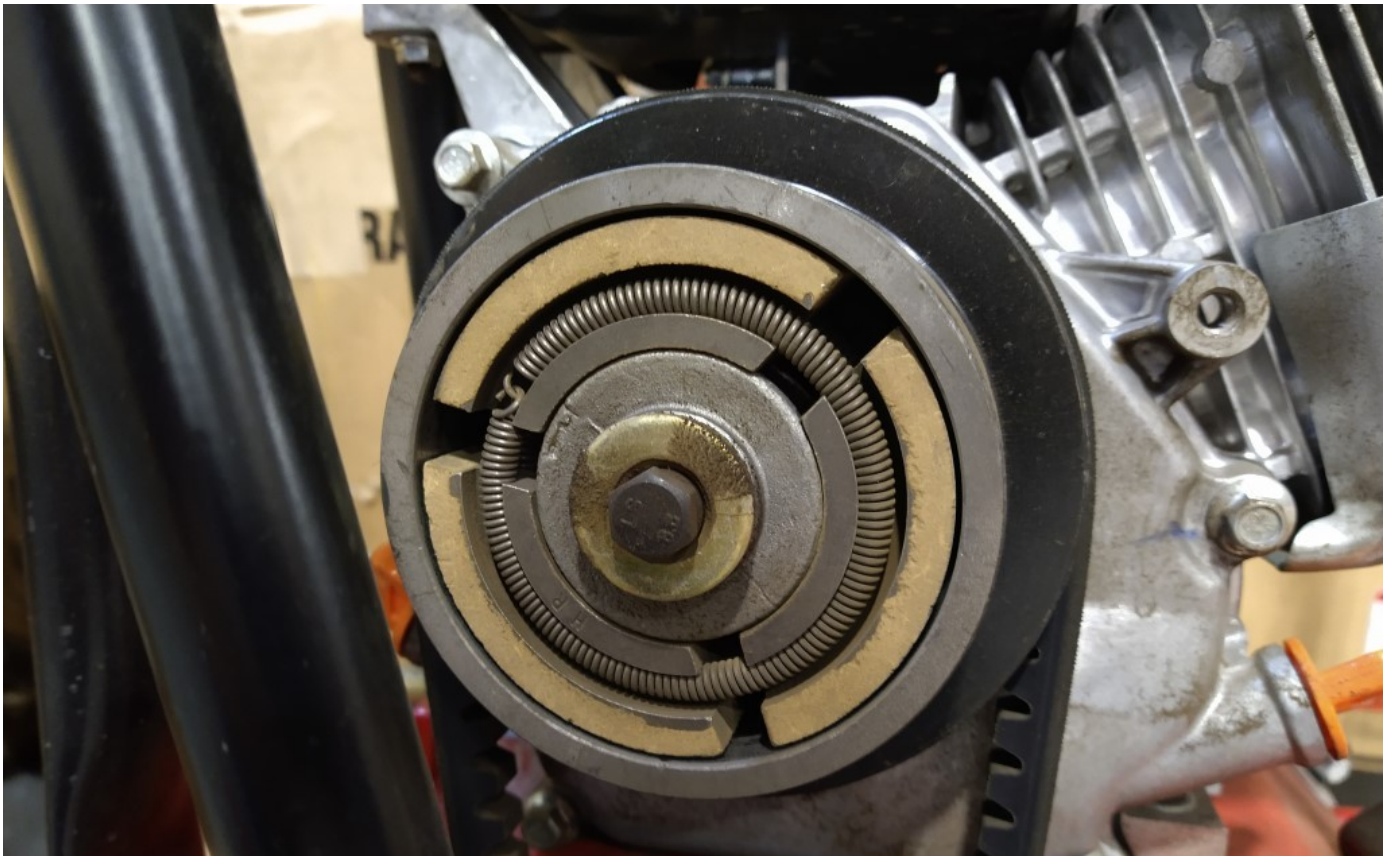

Fig. 3: Clutch and belt.
3. Remove the belt cover. The clutch and belt are now exposed (Fig. 3).